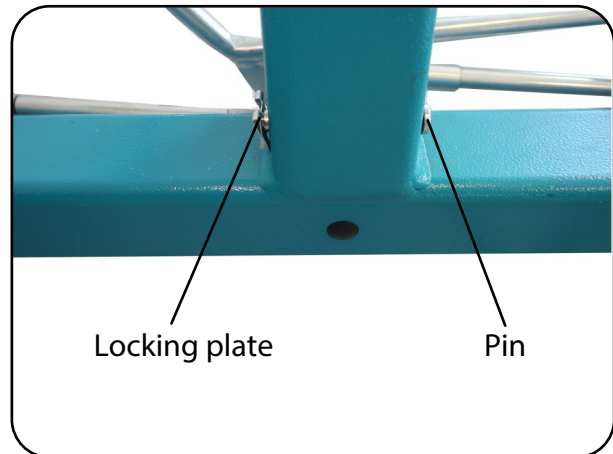

Fig.13.2.02 – Stand mast holder
4. Remove the locking plate with the pin from the stand mast holder and slowly and carefully fold the stand mast forwards (Fig. 13.2.02).